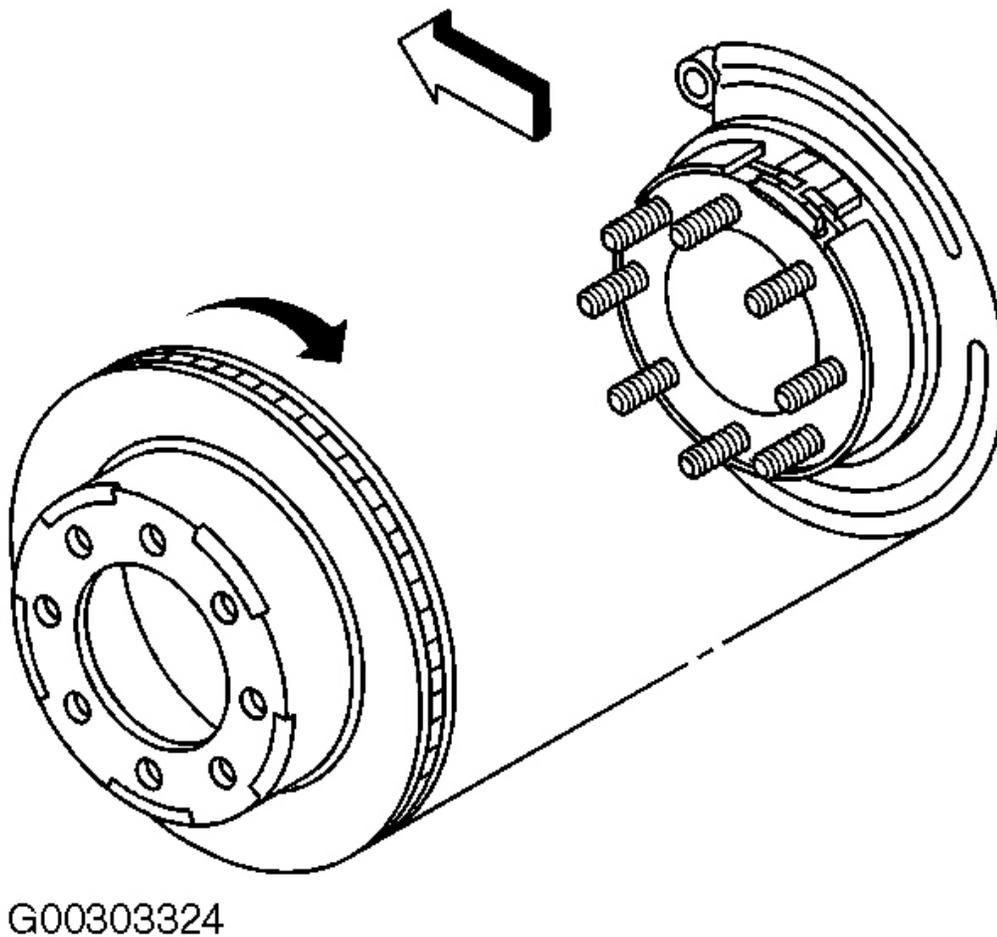

Fig. 30: Removing/Installing Brake Rotor (Rear)
4. Remove the rotor by slowly turning the rotor while pulling the rotor away from the axle. See **Fig. 30**.